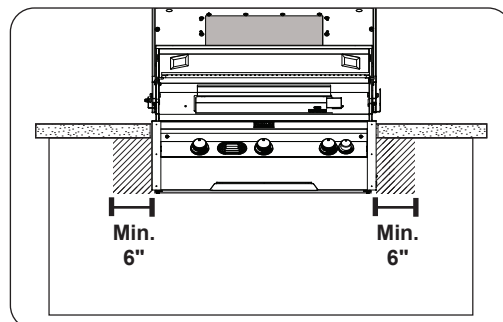

Fig. 15-1 Control panel clearances
- The control panel **MUST** have a minimum side clearance of 6" from any obstructions/side walls. See Fig. 15-1.